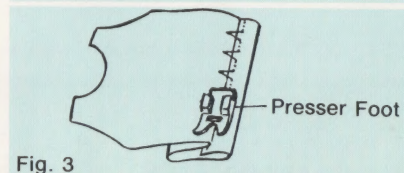

Fig. 3
3. Place garment under presser foot in such a manner that straight stitches will be sewn on extended edge. The zigzag stitch should just catch the fold of the garment. Fig. 3